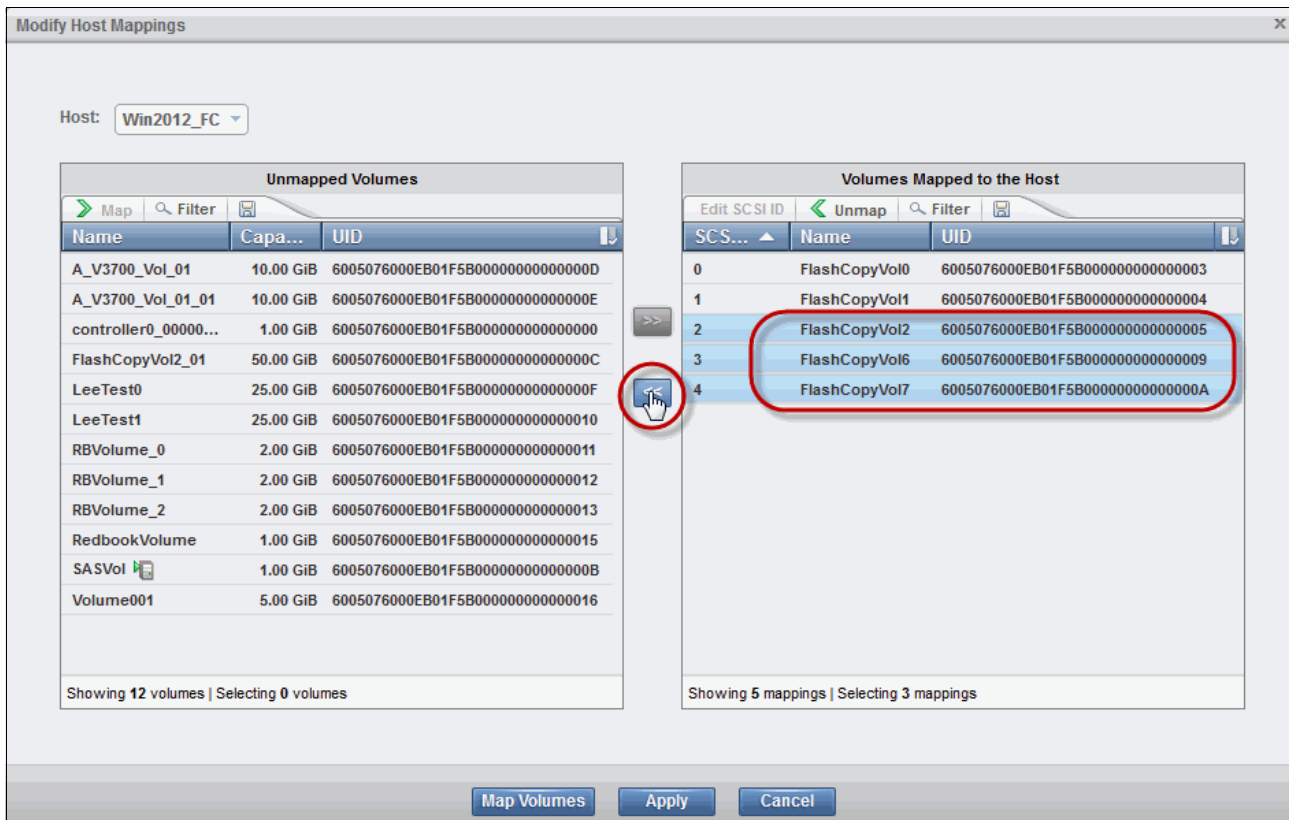

Figure 8-11 Unmapping volumes
1. Select the volume and click the Left Arrow icon to move the volume to the left (Unmapped Volumes) pane. Multiple volumes can be unmapped by selecting them with the Ctrl or Shift key, as shown in Figure 8-11.